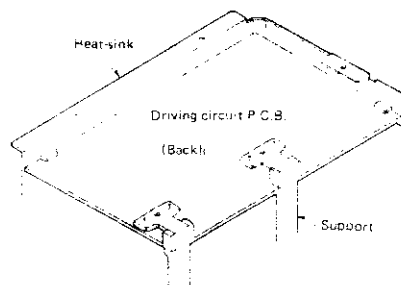

Fig. 20
- Remove the 3 setscrews (Fig. 19 : ㉔ ~ ㉖) of the heat-sink and 2 setscrews (Fig. 19 : ㉗, ㉘) of the printed board support, shift down the board in the direction of the arrow and check it from the back side. (Fig. 20)